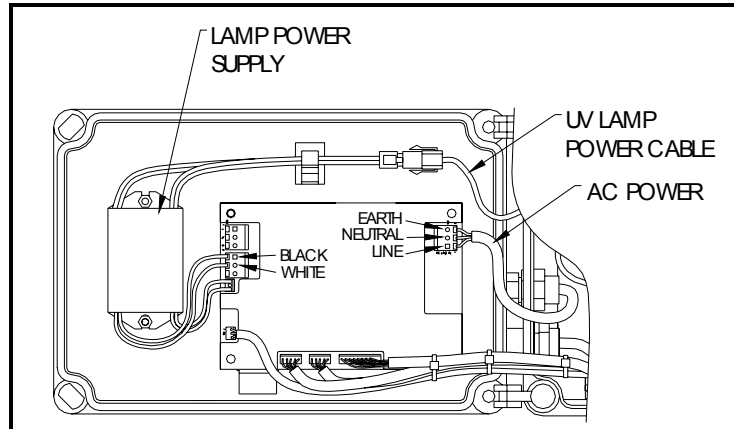

Figure 11. Location of Lamp Power Supply and Wiring
3. Locate UV Lamp power supply on the inside of the enclosure cover. Refer to Figure 11.
4. Disconnect the UV lamp power cable. Refer to Figure 11.
4. Locate and unplug the UV lamp cable from the lamp power supply cable as shown in Figure 11 of Section 9.